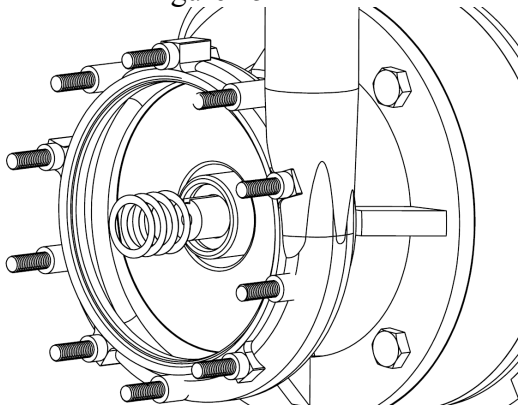

Figure 16
7) **IMPORTANT!** Once the seal assembly is installed the impeller spacers must be slid over the shaft and into the cavity of the seal driver. Figure 16.